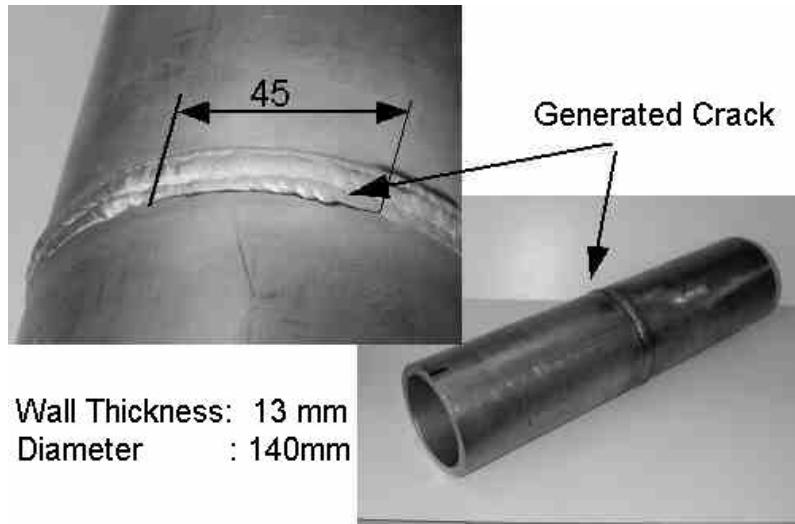

Figure 4: Test specimen / Rajah 4: Spesimen ujian
- [b] An austenitic tube of 13 mm wall thickness and 140 mm diameter was used as a specimen (Figure 4). Near the weld, a crack was generated, starting at the surface and propagated in the direction of the tube wall. The surface braking crack was made visible by liquid penetration and is clearly visible in the photo (Figure 4).